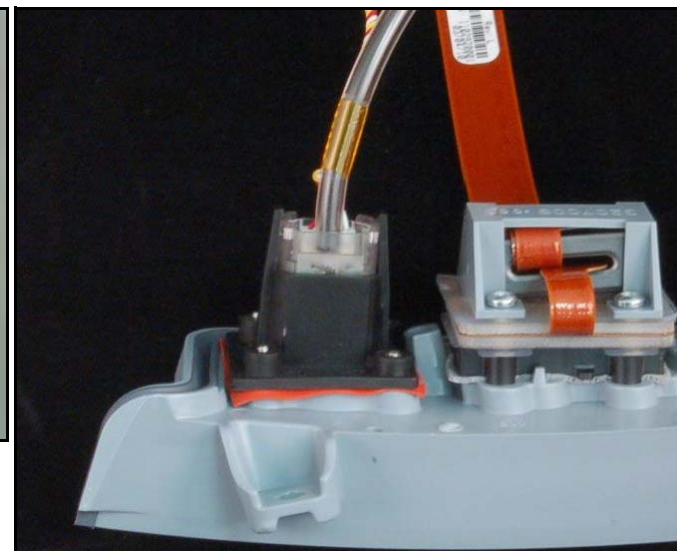

Figure 8.115—SpO2 connector cable
3. Insert the SpO2 connector cable into the parameter bezel and secure with the four new screws (3205311-001); torque to 2 in-lb using a Torx T-10 bit (see Figure 8.115 on p. 344 for connector orientation).